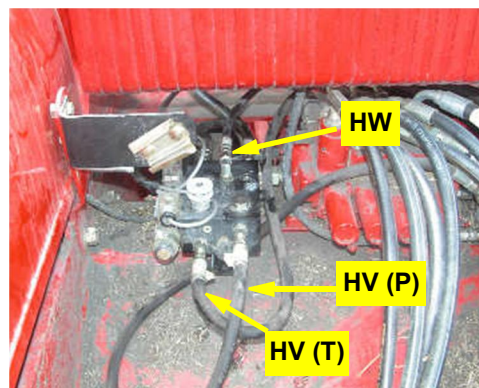

Figure 4-2d: Installed steering block (and steering controller) and P, T and LS hoses
d. Using hardware **HF**, attach the assembled steering block **HA** to **HE**. Face the **P** and **T** ports rearwards. (Figure 4-2d).
e. Attach pressure and tank hoses **HV** and load sense hose **HW** to the **P**, **T** and **LS** ports of **HA** (Figure 4-2d).